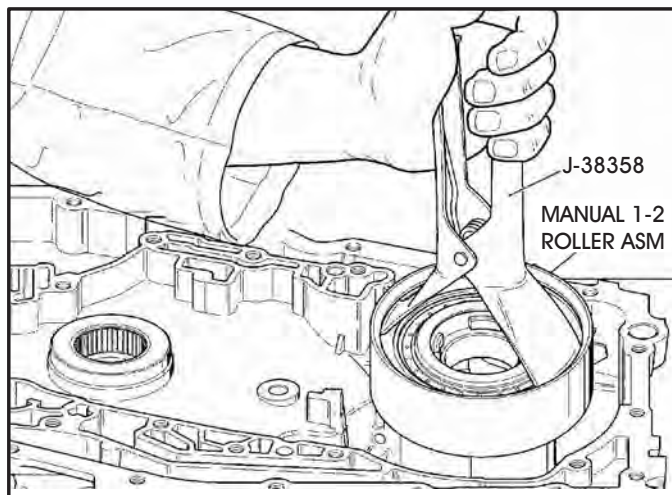

Figure 172
21. Install the preassembled 1-2 roller clutch and support, as shown in Figure 172, using J-38358 and rotating into position until fully seated.